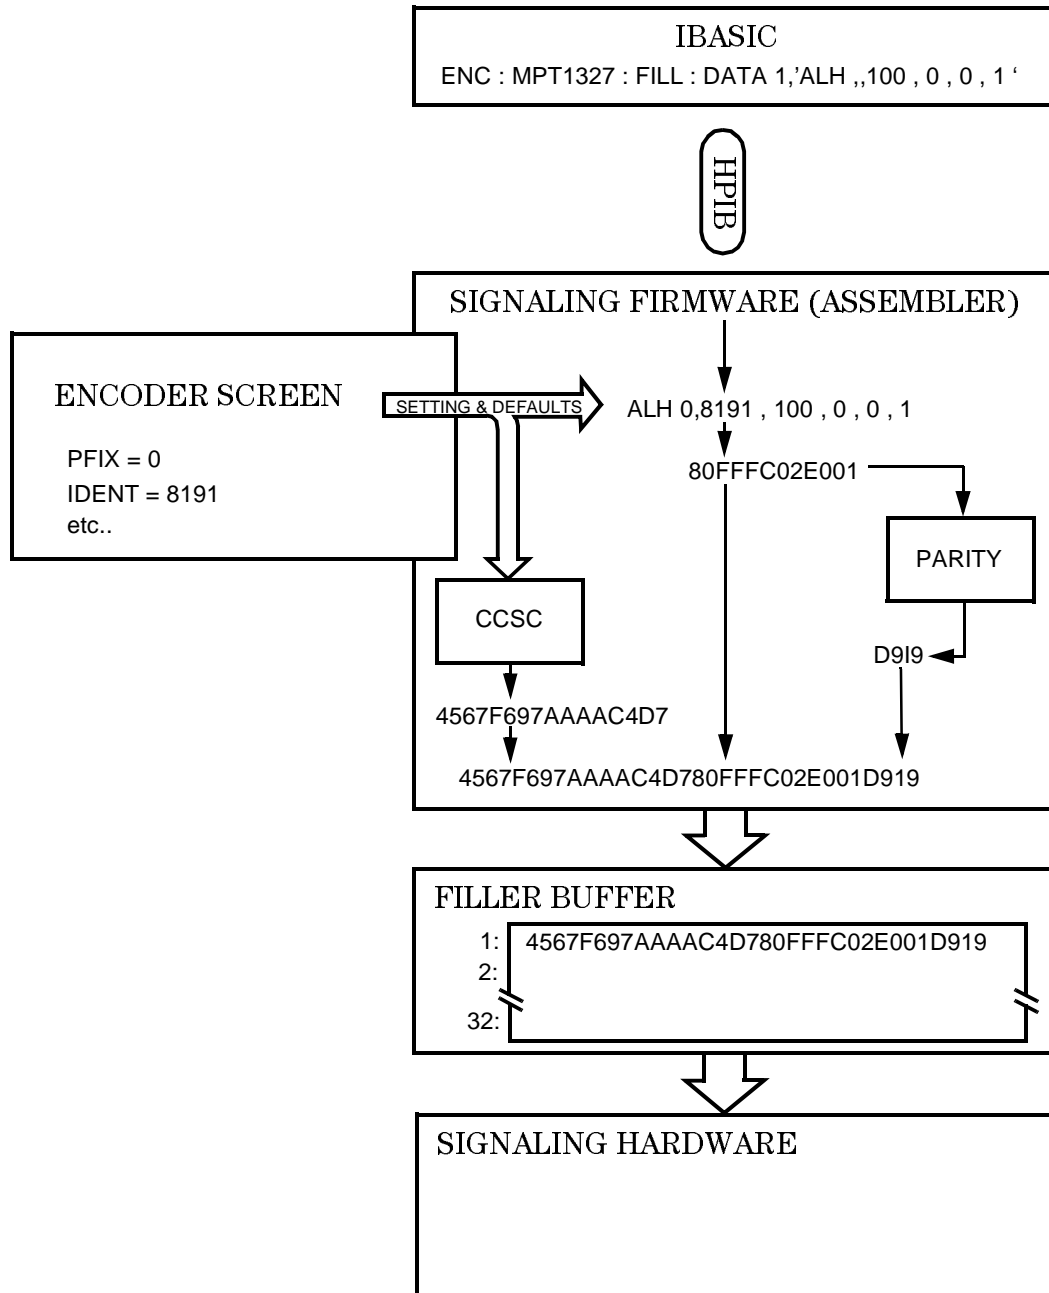

Figure 72 Sequence of Events in Assembling a Signaling Message
**Figure 72 on page 356**, shows a signaling instruction being processed, and should clarify this explanation.